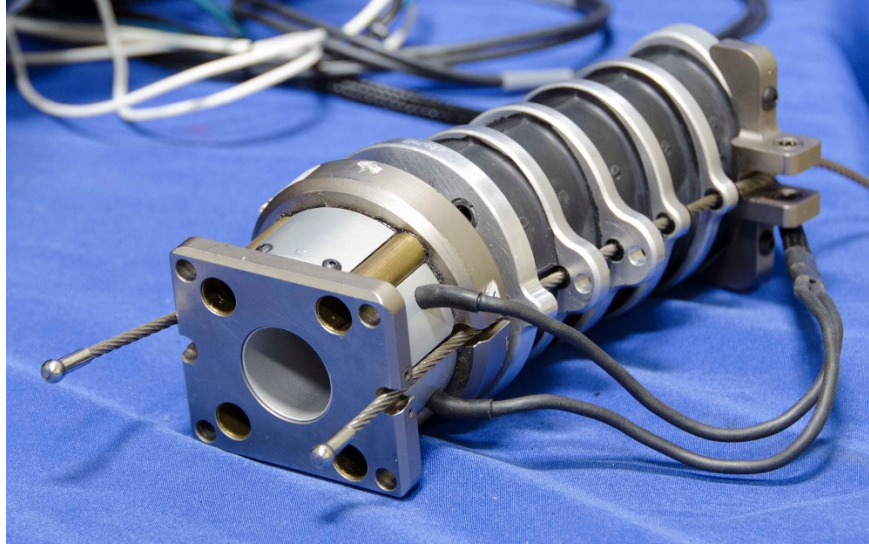

Figure 4-12. Assemble front and rear cable assemblies to neck
- 4.2.2.4 Pass the threaded end of the Neck Front Cable Assembly (472-2150) through the Lower Neck Load Cell (SA572-S111) and through each of the neck plate holes at the front side of the neck. Repeat with the Neck Rear Cable Assembly (472-2130) on the rear side of the neck (Figure 4-12).